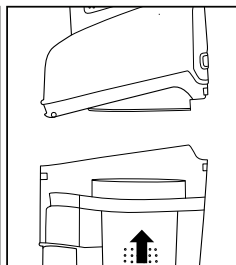

Fig. 4
4. Replace the dust cup onto the vacuum (Fig. 4).
7. Replace the dust cup onto the vacuum (Fig. 4).